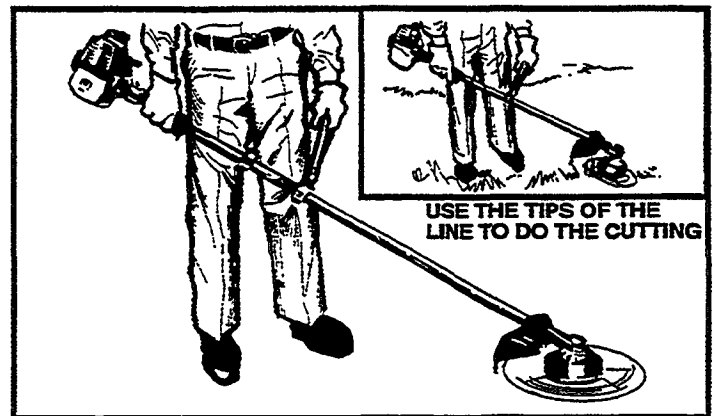

Figure 16
- Cut from left to right with the engine at full throttle, so that clippings will be thrown away from you (Figure 16).